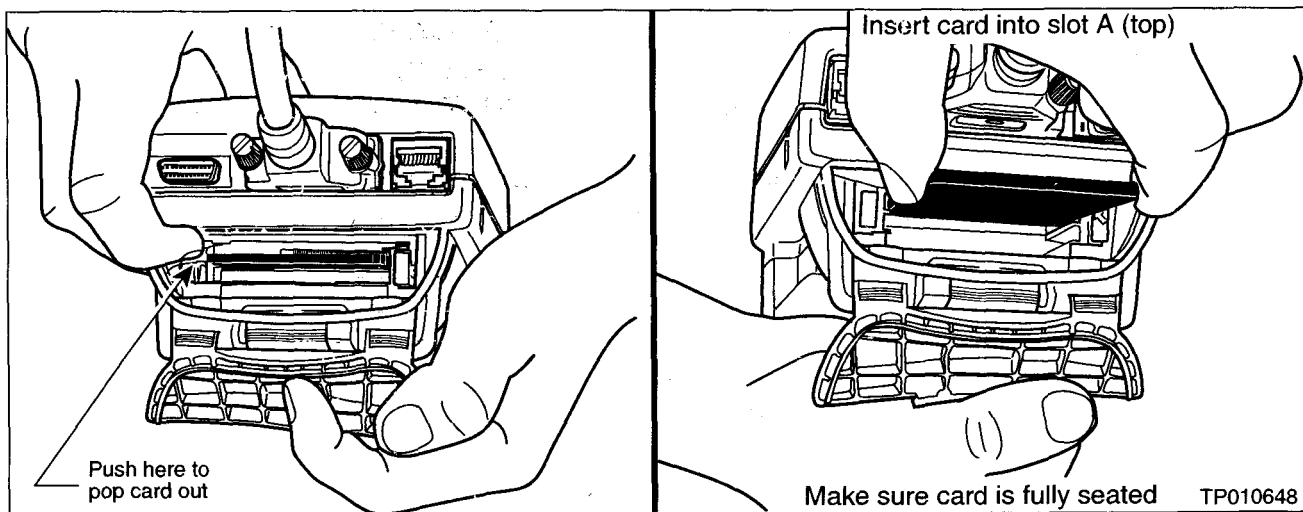

Figure 13
14. Remove the ECU Reprogramming card from slot A of CONSULT-II and install the Diagnostics (red/white) card into slot A (see Figure 13).